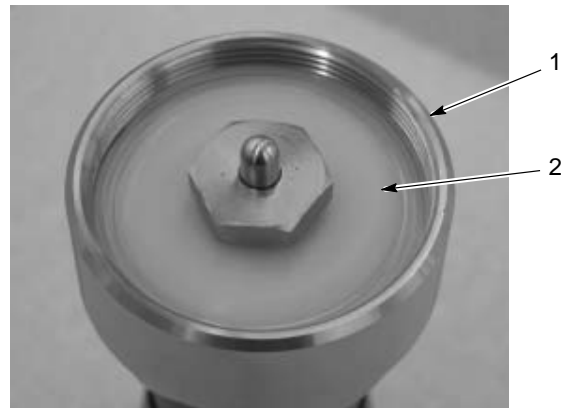

Figure 6 Installing Diaphragm Assembly
5. Use an 18-in. adjustable wrench to unscrew the bonnet ring (2) from the body.
6. Remove the bonnet assembly from the body. The diaphragm assembly should hold the load spring and other parts in the bonnet (see Figure 6).
5. See Figure 6. Install the diaphragm assembly into the bonnet ring.